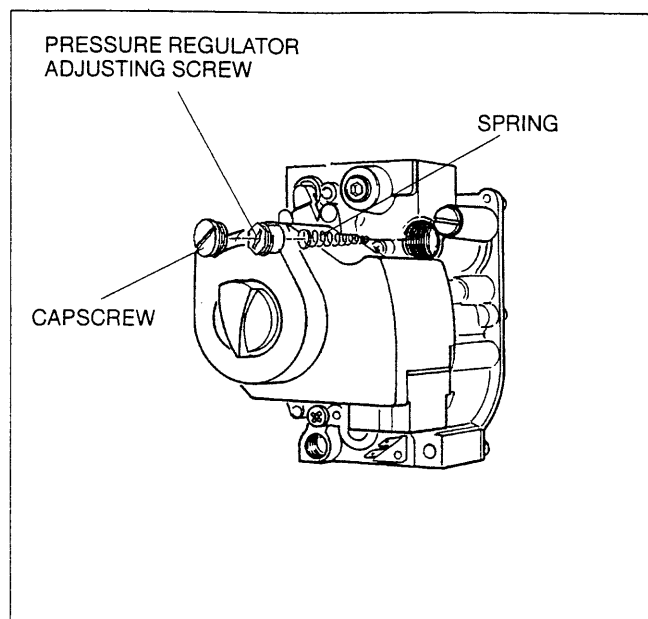

Fig.4
5. Remove the pressure regulator capscrew from the gas control, fig.4.
6. Remove the pressure regulator adjusting screw, fig.4.
7. Remove the stainless steel spring, fig.4.
8. Install the red spring contained in the Honeywell LP gas conversion kit into the gas control, fig.4.